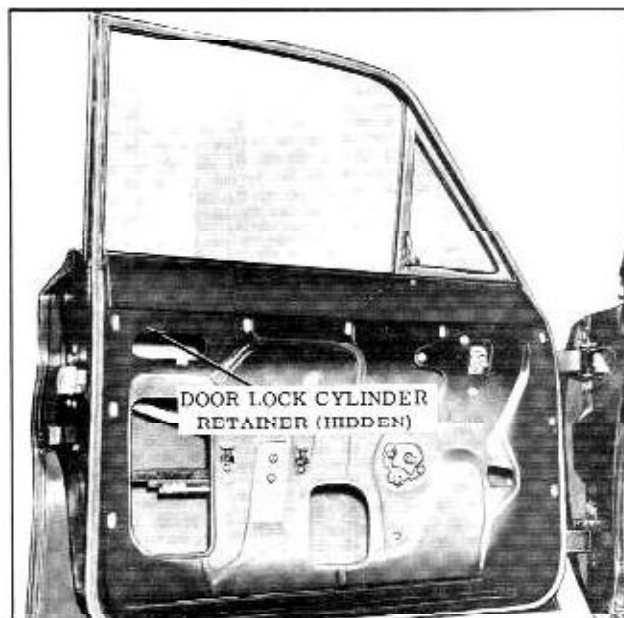

Fig. 15-34 Door Lock Cylinder Attachment
2. With a suitable tool, through inner panel access hole pry out lock cylinder retaining clip sufficiently to allow removal of cylinder, then remove cylinder and gasket. (Figs. 15-34 & 35)